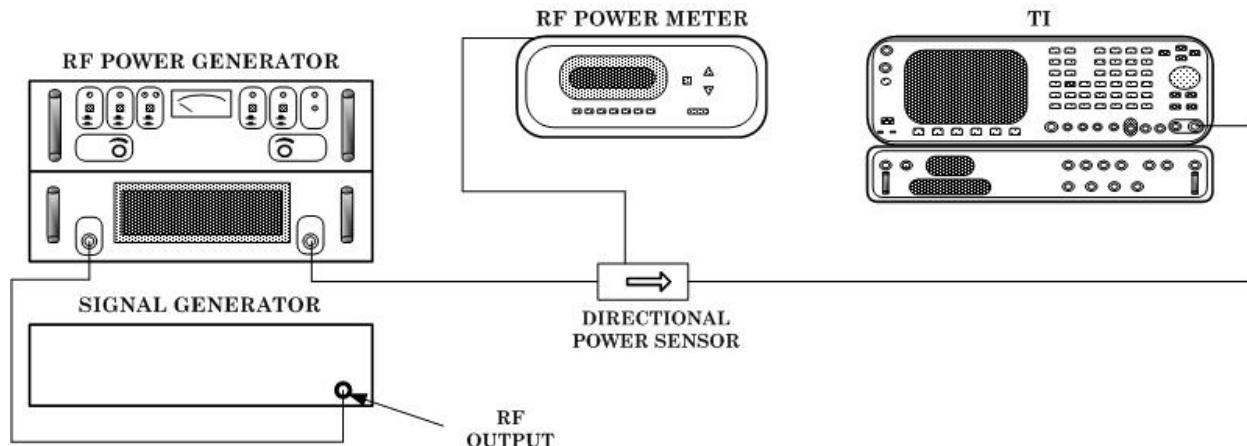

Figure 7. Power meter setup (1W - 200W range).
(11) Reduce signal generator and RF power amplifier outputs to minimum and disconnect equipment setup.
(12) Connect equipment as shown in figure 7.
- (18) Connect equipment as shown in figure 7.
(28) Adjust signal generator frequency to 85 MHz. Adjust signal generator and RF power amplifier output until measuring receiver indicates exactly 33 dB minus 10 dB attenuator (fixed) insertion loss.
(29) Disconnect RF power amplifier and 10 dB attenuator (fixed) from measuring receiver. Connect RF power amplifier **OUTPUT** to TI T/R.
(30) Press **Range (F1)** key repeatedly to select **2 W** range, and press **DATA ENTRY ENTER** key.
(31) Press key sequence listed in (a) through (e) below:
(32) Press **Range (F1)** (power meter range mode) repeatedly to select **200 W** range and press **DATA ENTRY ENTER** (200 W range) key.
(33) Connect equipment as shown in figure 7.
(34) Adjust signal generator frequency to 200 MHz. Adjust signal generator and RF power amplifier output to 50W.
(35) Press key sequence listed in (a) through (f) below:
(36) Press **MODE RF GEN** (MODE RF GEN Display); when prompted for backup data, press **SHIFT** and **Y** keys (Backup Cal Data ? y/n).
(37) Disconnect all test equipment.